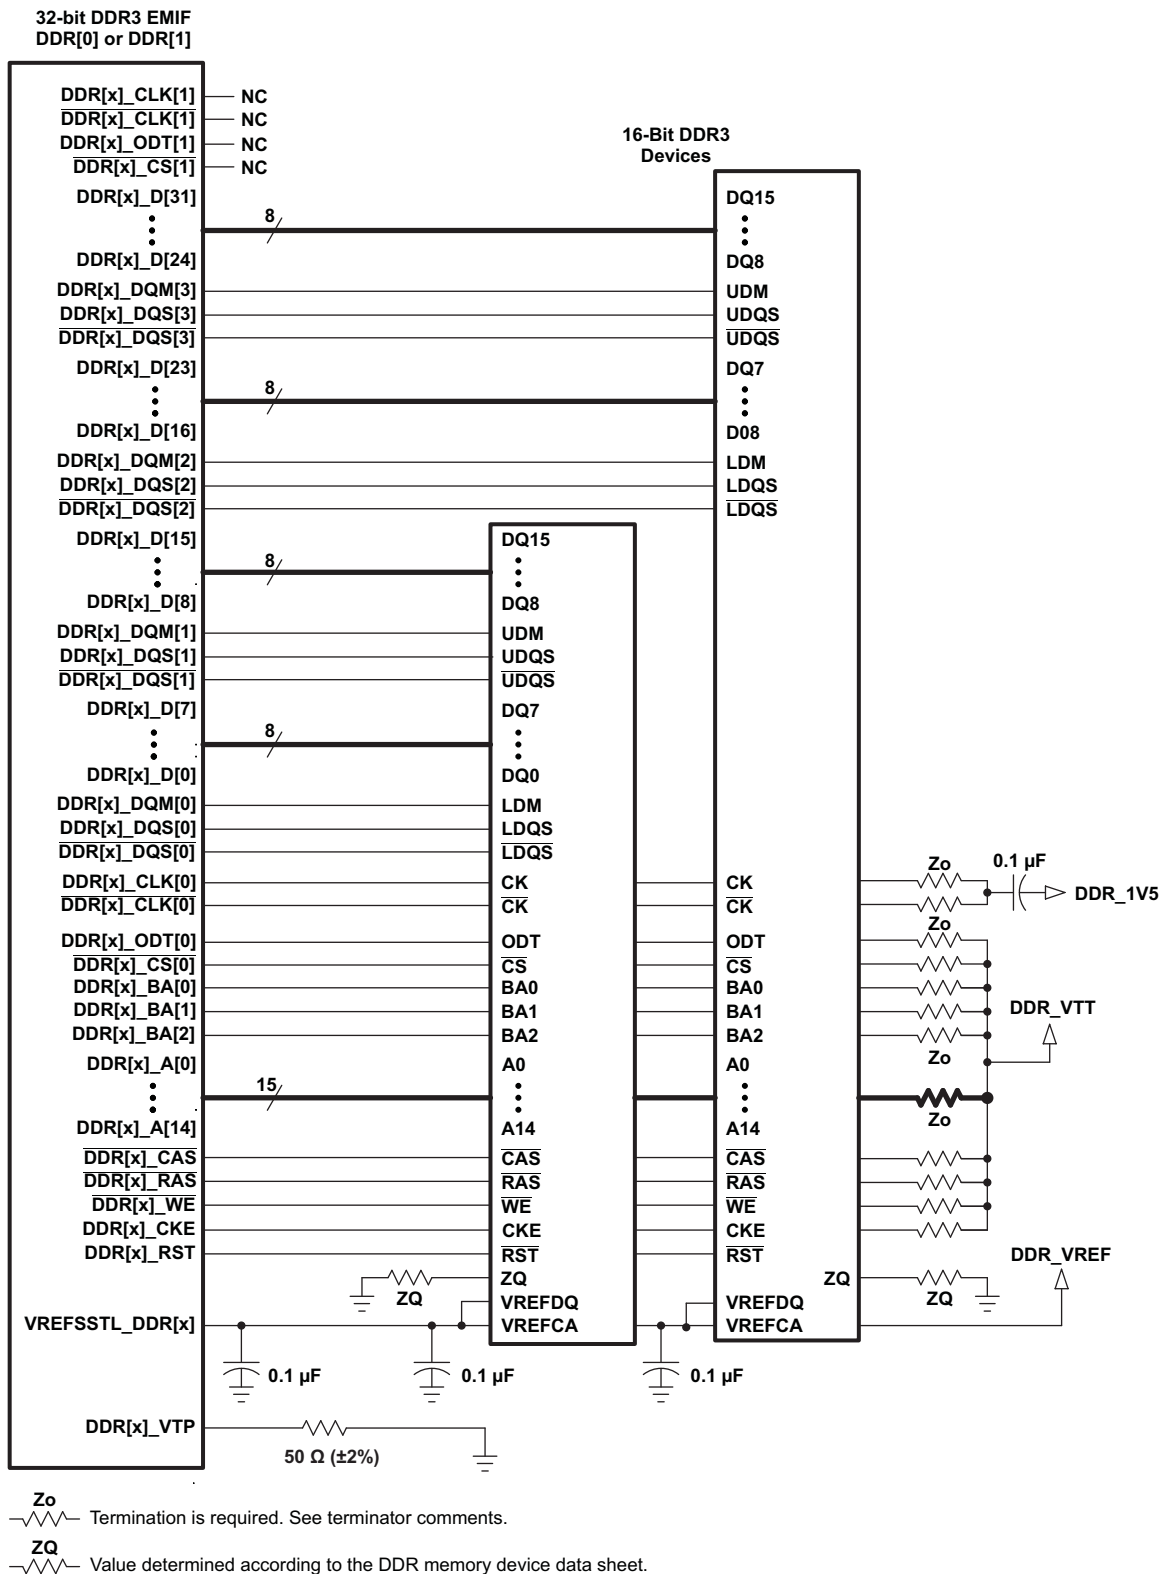

Figure 8-13. 32-Bit, One-Bank DDR3 Interface Schematic Using Two 16-Bit DDR3 Devices
The DDR3 interface schematic varies, depending upon the width of the DDR3 devices used and the width of the bus used (16 or 32 bits). General connectivity is straightforward and very similar. 16-bit DDR devices look like two 8-bit devices. Figure 8-13 and Figure 8-14 show the schematic connections for 32-bit interfaces using x16 devices.
Note that the 16-bit wide interface schematic is practically identical to the 32-bit interface (see Figure 8-13 and Figure 8-14); only the high-word DDR memories are removed and the unused DQS inputs are tied off. The processor DDR[x]_DQS[2] and DDR[x]_DQS[3] pins should be pulled to the DDR supply via 1-k Ω resistors. Similarly, the $\overline{\text{DDR}}[\text{x}]_{\text{DQS}}[2]$ and $\overline{\text{DDR}}[\text{x}]_{\text{DQS}}[3]$ pins should be pulled to ground via 1-k Ω resistors.
(1) DDR3 speed grade depends on desired clock rate. Data rate is 2x the clock rate. For DDR3-1600, the clock rate is 800 MHz.
(2) For valid DDR3 device configurations and device counts, see Section 8.3.2.3, Figure 8-13, and Figure 8-14.